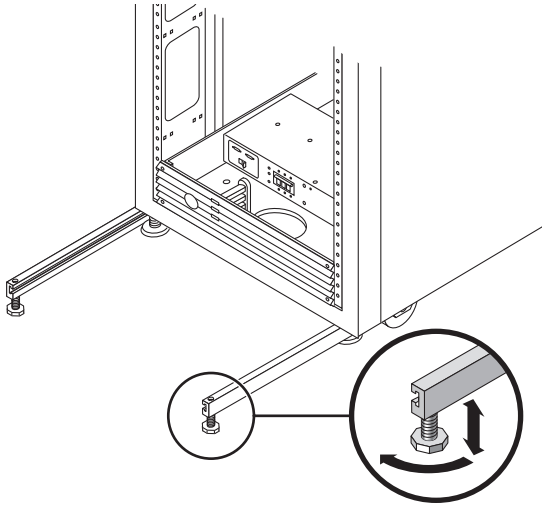

FIGURE 2-5 Adjusting the Leveling Pads on the Stabilizer Leg
6. Use the leveling wrench to adjust the feet on both stabilizer legs so that they touch the floor (FIGURE 2-5).